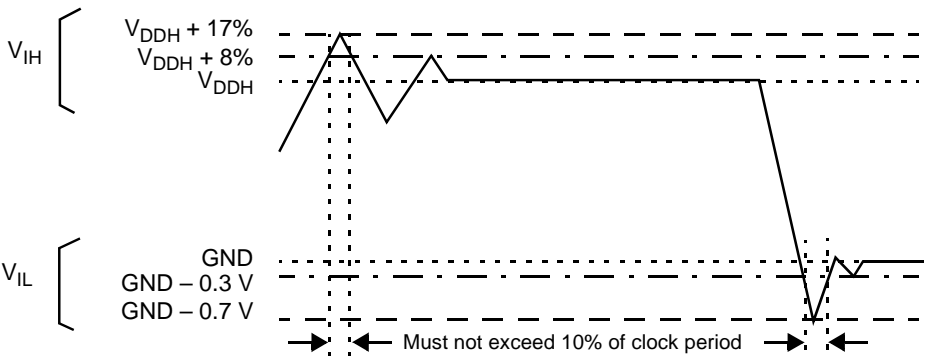

Figure 5. Overshoot/Undershoot Voltage for V_{IH} and V_{IL}
1. See **Figure 5** for undershoot and overshoot voltages.